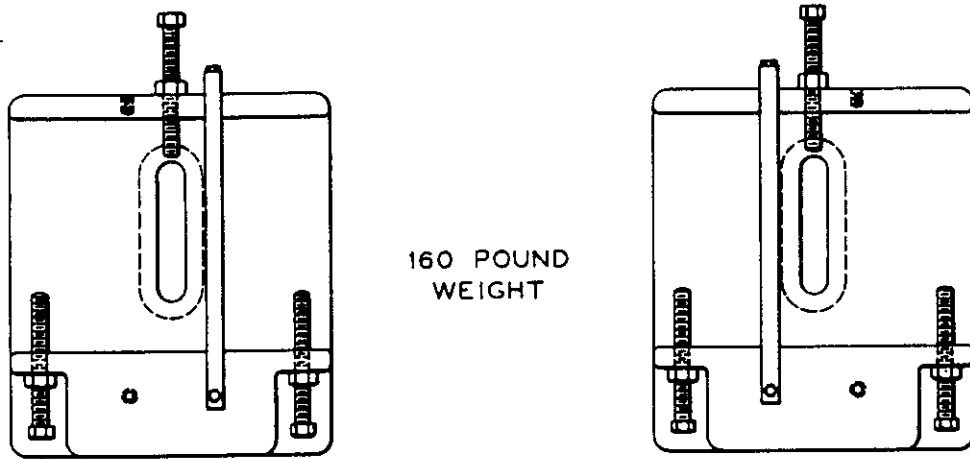
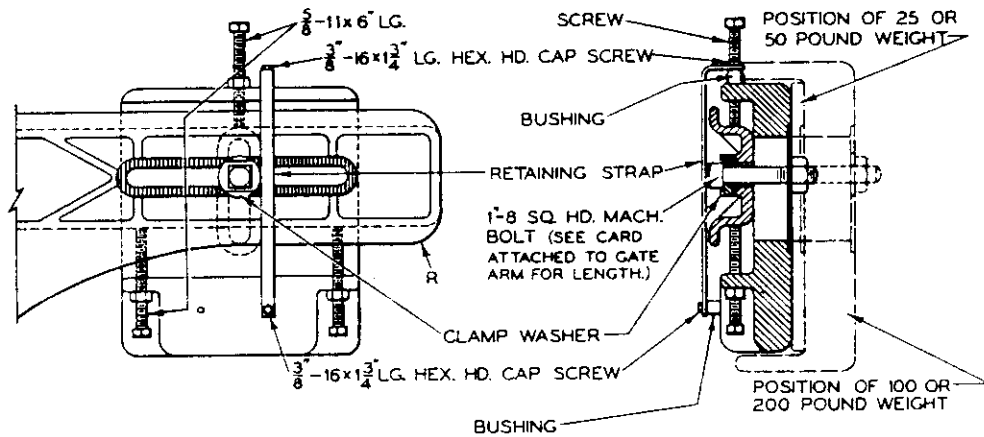

Figure 6. Counterweights.
Figure 7. Assembly of counterweight to support arm.
1. If the gate arm is not over 24 feet long, assemble the retaining strap to one 160 pound counterweight, as shown at the right of Figure 6. Place the weight on support arm R, Figure 7, and slide it to the center of the slot. Insert the clamp washer and the 1-inch bolt, apply the washer and nut, and tighten lightly.
2. If the gate arm is 25 to 30 feet long, assemble the retaining straps to two 160 pound counterweights as shown in Figure 7. Attach the weights to their respective support arms R and L as described in step 1.